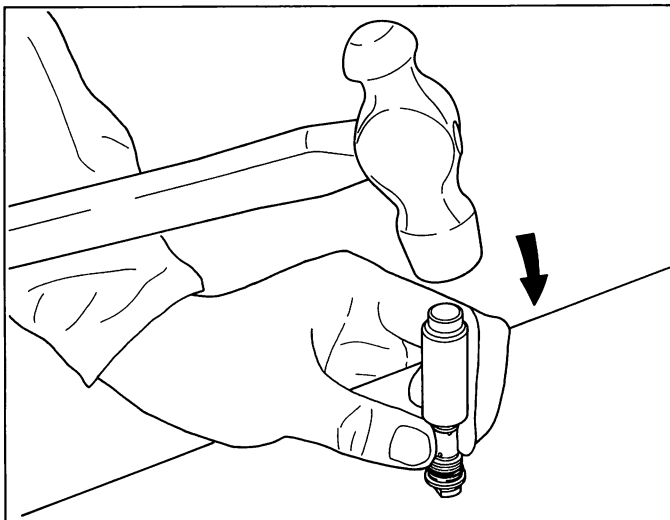

Fig. 112 Inserter
- 3) Reinstall the spring and piston. Then, insert a new spring ring using the inserter (157829-5220). Ensure the spring ring is flush with the end of the regulating valve. (Figs. 112 and 113)